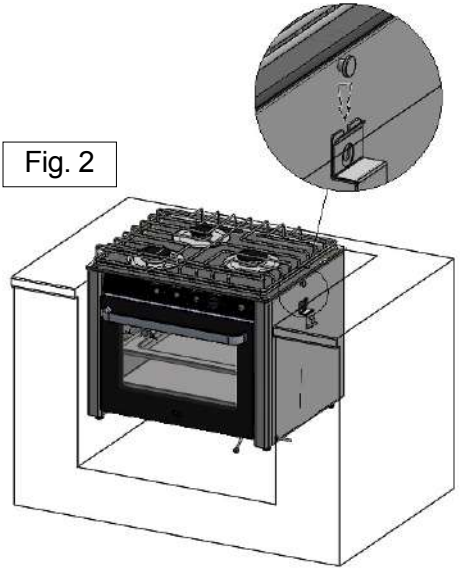

Fig. 2
- Insert the oven in the hooking brackets, as indicated in **Fig. 2**;